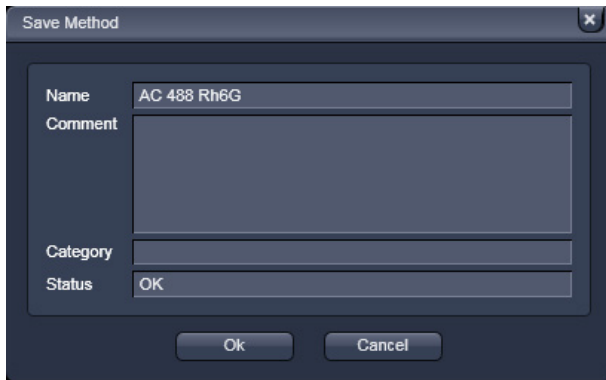

Fig. 309 Save Method panel
- Click on the **Store** to open the **Save Method** panel (Fig. 309). Click again to close the panel.
(2) Loading a method